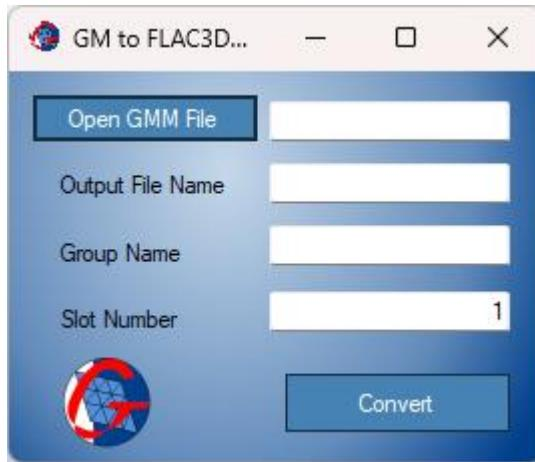

Figure 18: Geo Meshing v6 to Flac3D® Geometry dialog window.
- **GM to Flac3D® Geometry:** Opens a dialog window (shown in Figure 18) for converting *Geo Meshing v6* meshes to Flac3d® geometry. The resulting file can be imported in Flac3D® using *Open Item/Geometric Data: Import* option.